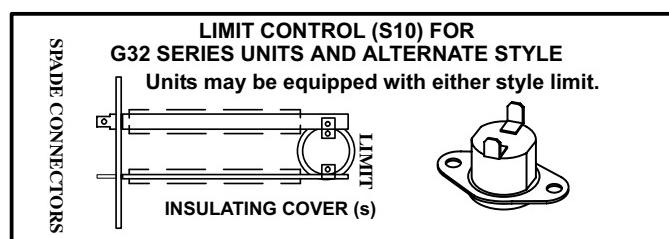

FIGURE 15
11.Primary Limit Control (S10) Figure 15